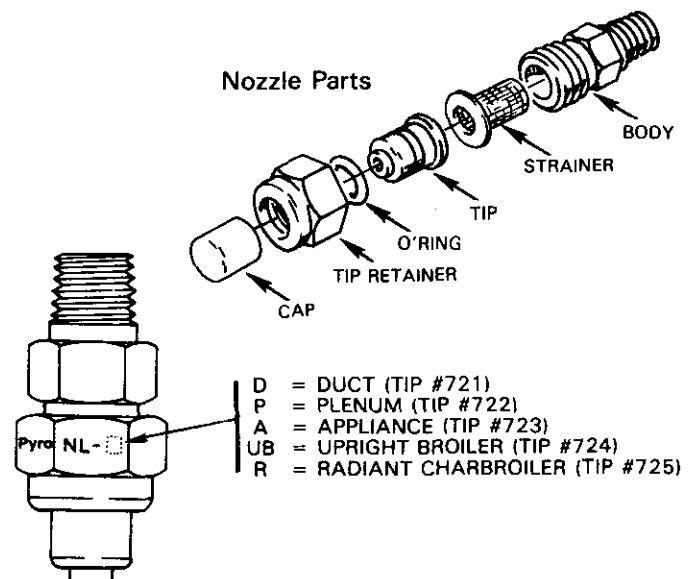

Figure 1-9. Nozzle Identification
E. NOZZLES — Nozzles have been developed for surface appliance coverage, charbroiler, upright broiler, plenum and duct application. All nozzles have a specific flow point value. Application limitations for the discharge nozzles are described in Chapter II of this manual. All nozzles will be supplied with covers to prevent clogging. The model of each nozzle is stamped on the tip retainer nut and the part number is stamped on the tip. (See Figure 1-9).